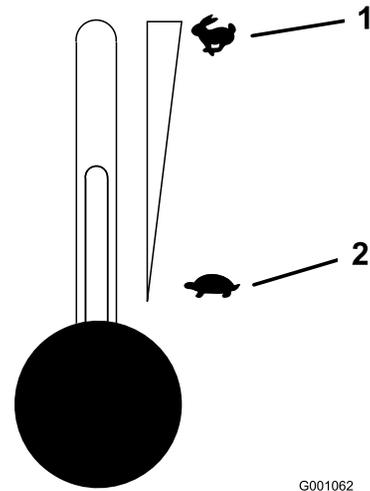

Figure 13
5. Move the throttle lever to the middle position (Figure 13).
- Move the throttle lever midway between the slow and fast positions (Figure 13).